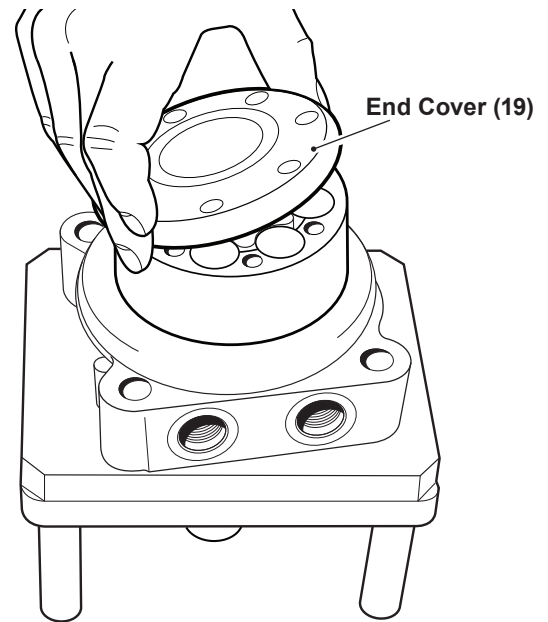
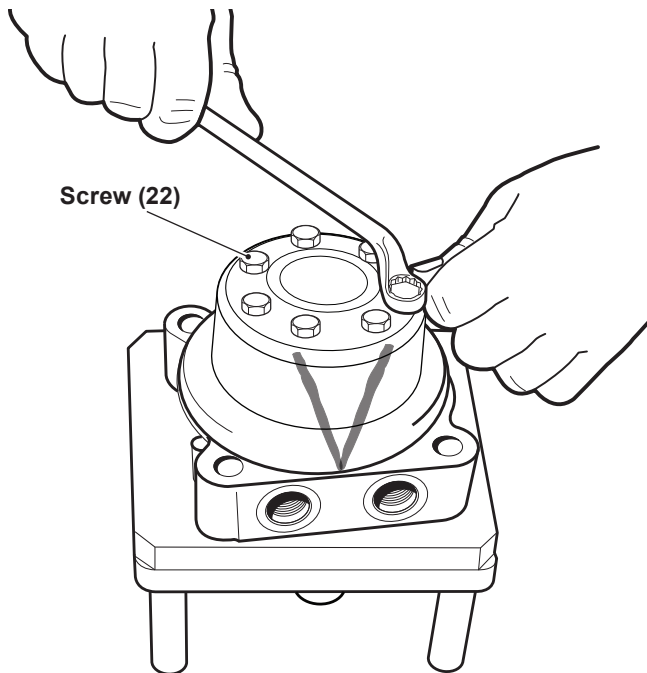

Figure 8, End Cover
Figure 7, Screws
1. Remove castellated nut (1), woodruff key (6), plastic plugs (8), and retaining ring (2). See page 5.
2. Using a 13mm wrench — remove the seven screws (22). See figure 7.
3. Remove the seven washers (23) and discard.
4. Remove the end cover (19) by sliding the end cover sideways, off the gearwheel set. See figure 8.